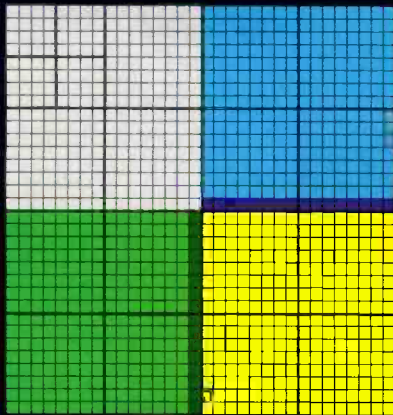
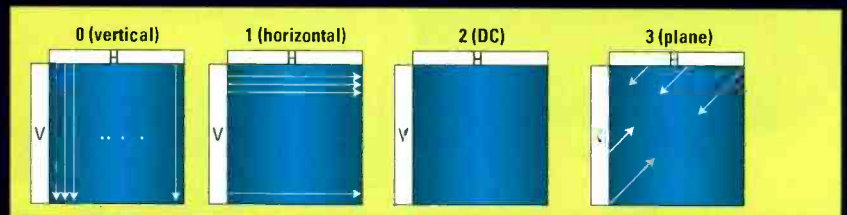
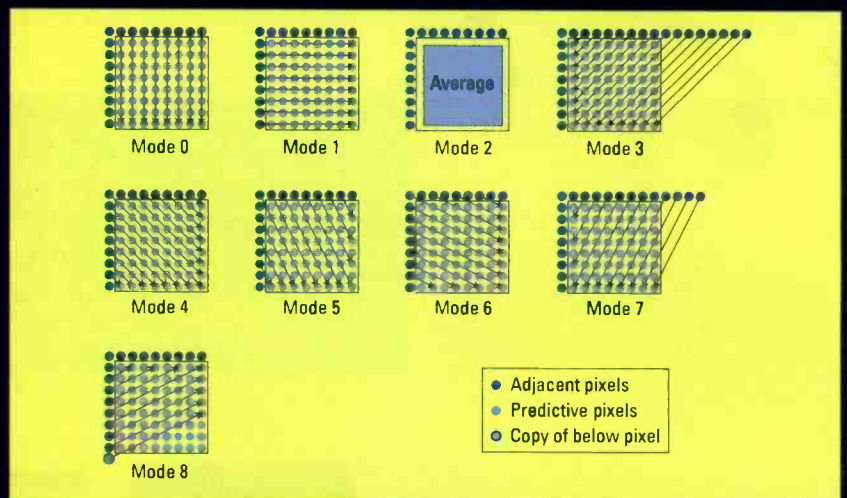

Figure 2. 16 x 16 pixel macroblocks each with four 8 x 8 subblocks
Figure 3. Four prediction modes for 16 x 16 luma blocks
Figure 4. Nine prediction modes for 8 x 8 submacroblocks
H.264 encoding begins by chroma downsampling to 4:2:0. Next, each incoming picture is divided into macroblocks. (When interlaced video is encoded, both fields are compressed together.) Many of the same techniques used to compress an MPEG-2 I-frame are used to compress macroblocks making up an I-slice. Each 16 x 16 pixel macroblock is further partitioned into four 8 x 8 submacroblocks. (See Figure 2.) The encoder can switch between working with 16 x 16 blocks and 8 x 8 blocks.
the Current Block (yellow) in the Figure 2 frame to be encoded has a block to the left (green) and a block above (blue). The latter two blocks are Previous Blocks. Reference Pixels are located at the left (dark green) and lower (dark blue) boundaries between Previous Blocks and the Current Block. Four different types of prediction methods (modes) are used with 16 x 16 macroblocks. (See Figure 3.)
When predictions are made for 8 x 8 submacroblocks, nine modes are used. (See Figure 4.)
During encoding, each 16 x 16 pixel macroblock is partitioned into four 8 x 8 submacroblocks and 16 4 x 4 submacroblocks. (See Figure 2.) The encoder can switch among working with 16 x 16 blocks, 8 x 8 blocks and 4 x 4 blocks. When predictions are made for 16 x 16 macroblocks, four modes are used. (See Figure 3.) When predictions are made for 8 x 8 submacroblocks, nine modes are used. (See Figure 4.) Canon AVCHD camcorders were the first to use HP H.264. Shooters quickly found MP software decoders were unable to decode Canon recordings.